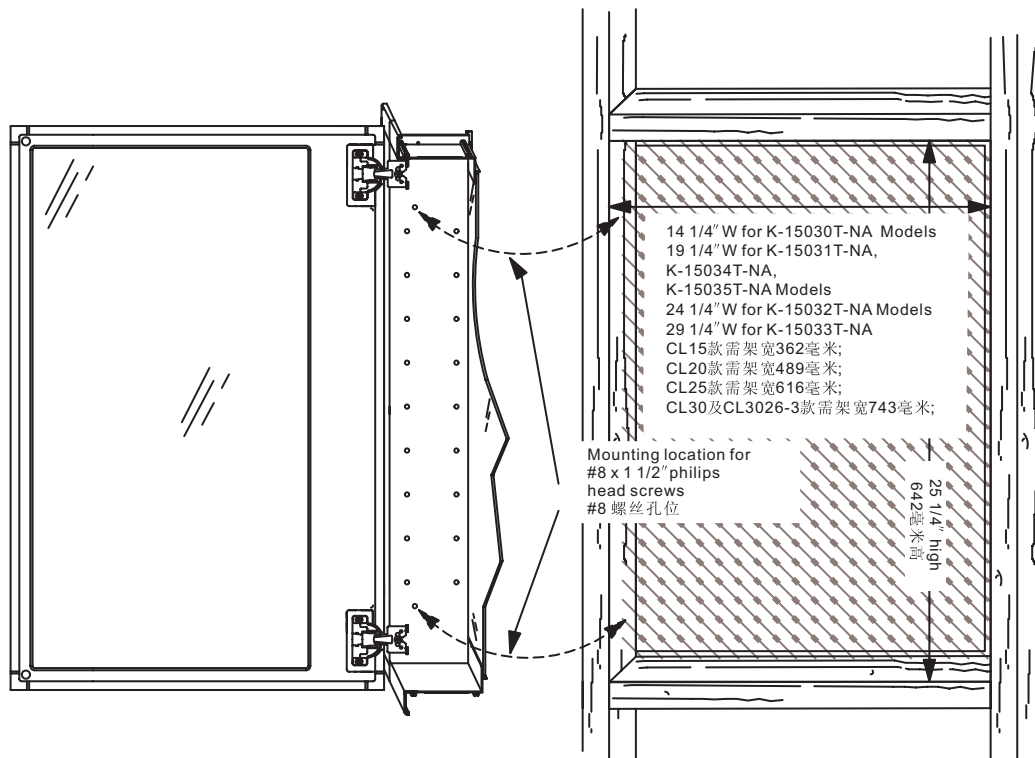

Fig. 1 图1
B. Install screws through holes in cabinet as shown in Fig.1
B. 按图1所示将螺丝装入浴柜的螺丝孔中。